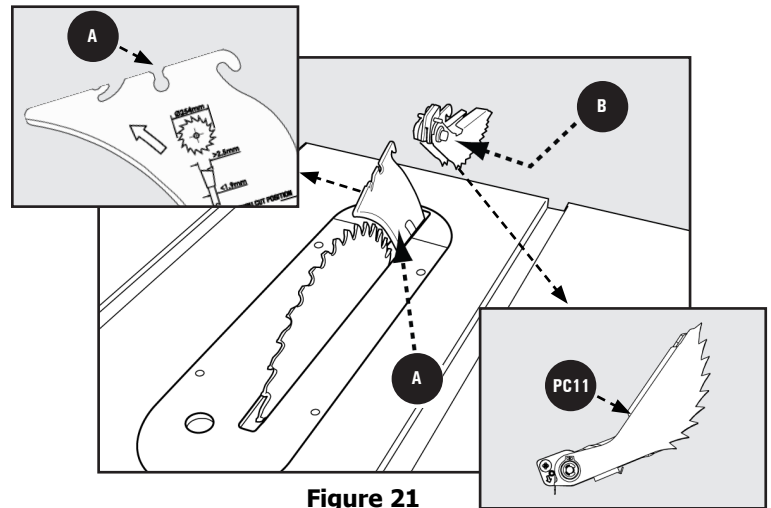

Figure 21
1. See Figure 21 and locate the Anti-Kickback Pawls Mounting Slot **A** in the middle of the top edge of the Riving Knife.